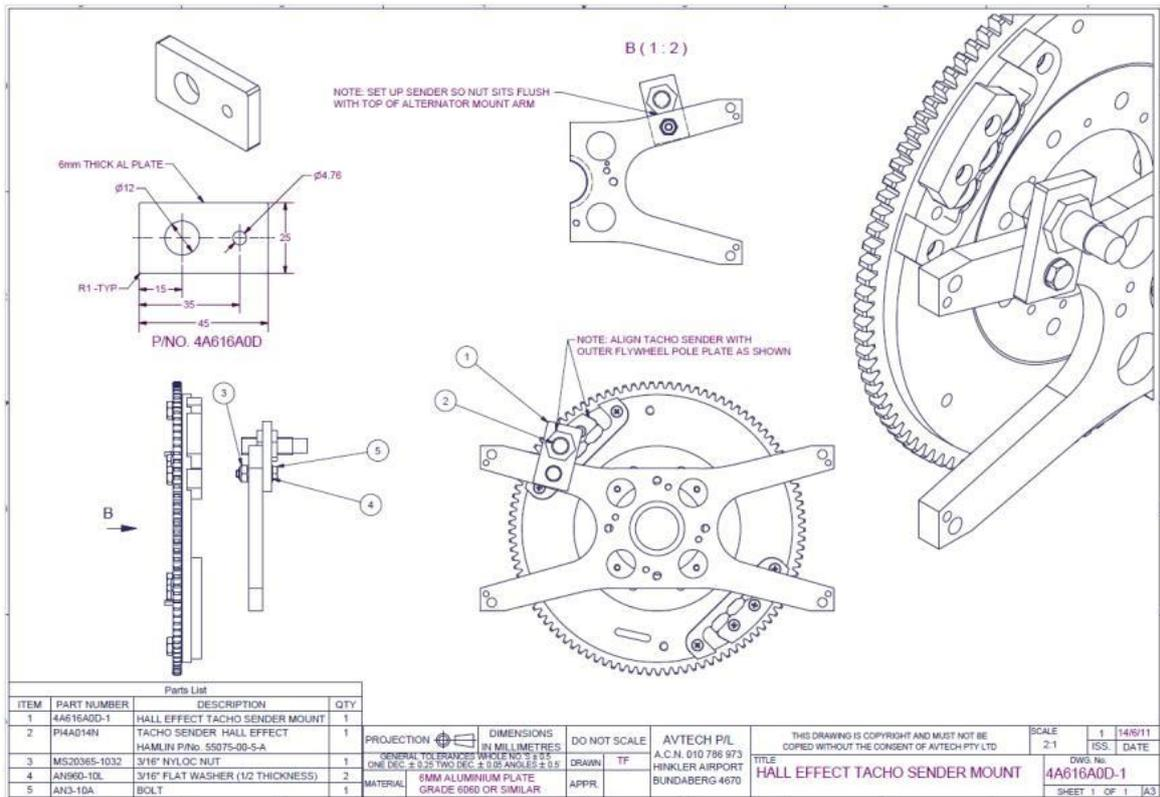

Figure 151 – Hall affect Tacho Sender
- Where the hall-effect type tacho sender is used (Figure 151) it must be installed during final assembly